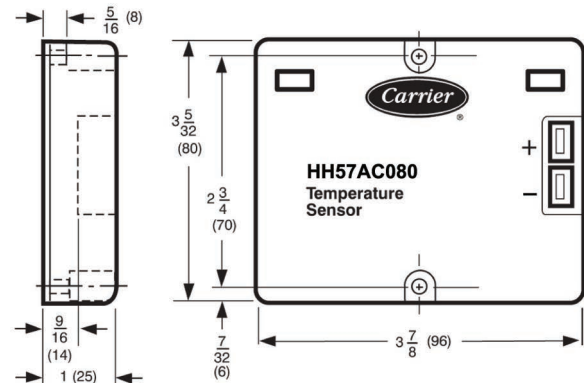

Fig. 4 — Temperature Sensor Specifications
6. Pick up the black and red wires left hanging in Step 3 and connect them to the temperature sensor. Connect the red wire to the sensor’s “-” terminal and the black wire to the sensor’s “+” terminal. See Fig. 4 for details.